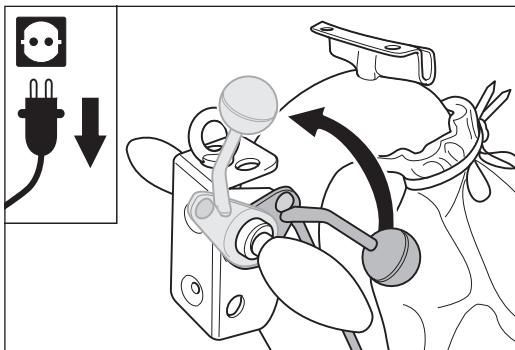

Fig. 26 Lift the sanding drum off the floor by turning the lowering lever at the handle upwards.
- 1 Lift the sanding drum off the floor by turning the lowering lever at the handle upwards (Fig. 26).
- **Always** lift the sanding drum off the floor before switch on the machine (Fig. 26)!